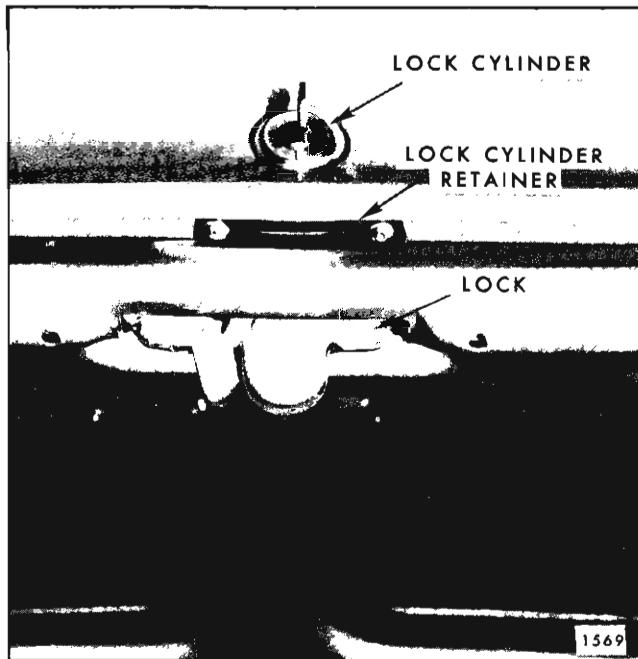

Fig. 2F11—Rear Compartment Lid Lock
1. Open rear compartment lid and remove lock cylinder retainer attaching screws (Fig. 2F11).